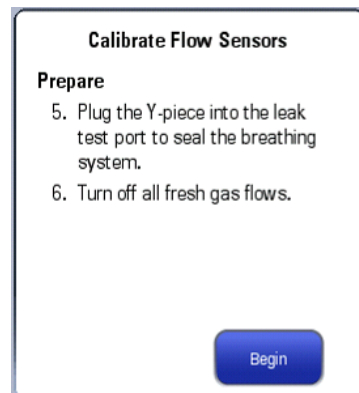

FIGURE 7-2 Flow Sensor Calibration Begin
9. Follow the on-screen prompts and select the **Begin** button to start to calibrate the flow sensor (see FIGURE 7-2). The calibration process takes several minutes. The system displays the results of the calibration status when the process is completed.